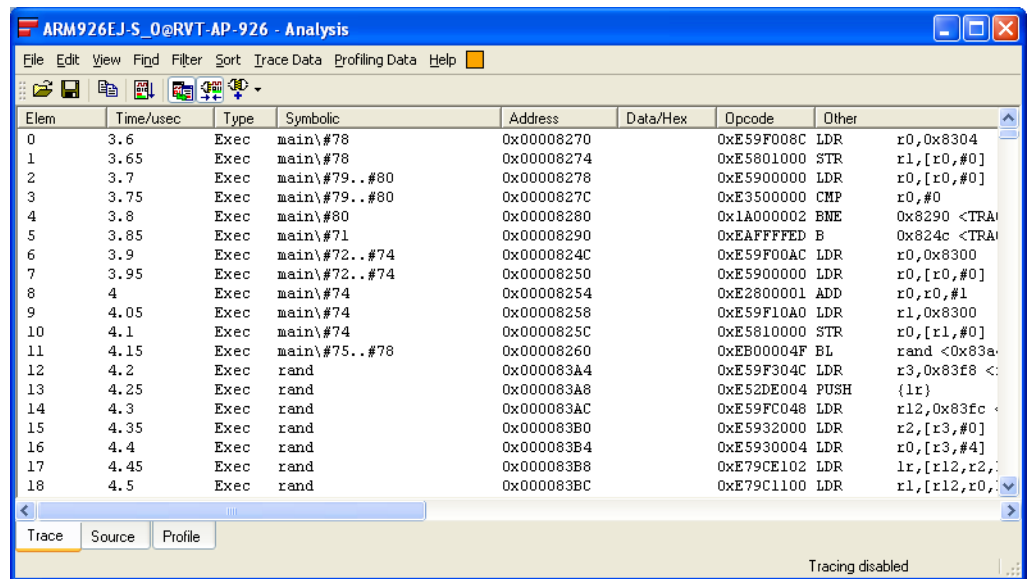

Figure 10-66 Captured trace after disabling trace for a running target
3. Select **Edit** → **Tracing Enabled** from the Analysis window menu. Trace capture is disabled, as shown in the status line at the bottom of the Analysis window. Do not stop the target running at the moment. When you disable tracing, the captured trace is displayed. Figure 10-66 on page 10-64 shows an example: